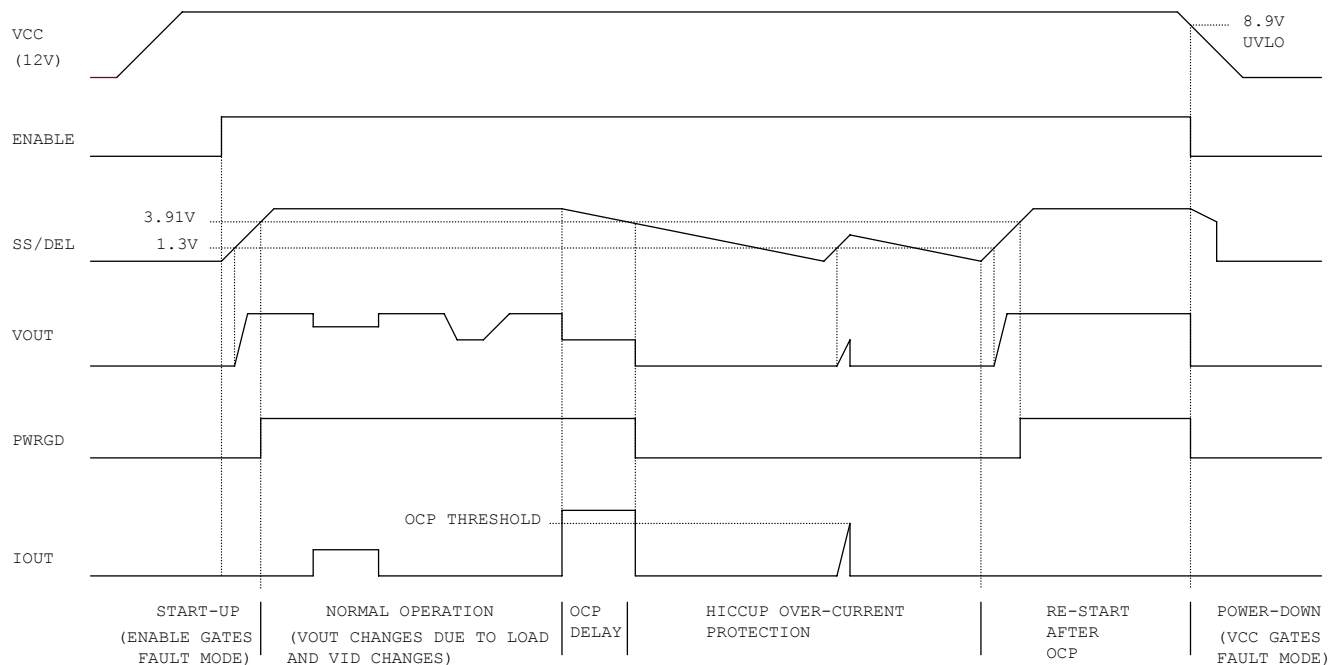

Figure 10. Operating Waveforms
Figure 10 depicts the various operating modes as controlled by the SS/DEL function. If there is no fault, the SS/DEL pin will begin to be charged. The error amplifier output is clamped low until SS/DEL reaches 1.3V. The error amplifier will then regulate the converter's output voltage to match the SS/DEL voltage less the 1.3V offset until it reaches the level determined by the VID inputs. The SS/DEL voltage continues to increase until it rises above 3.91V and allows the PWRGD signal to be asserted. SS/DEL finally settles at 4V, indicating the end of the soft start.
The SS/DEL pin voltage controls the slew rate of the converter output voltage, as shown in Figure 10. After the ENABLE pin voltage rises above 0.6V, there is a soft-start delay time  $t_{SSDEL}$ , after which the error amplifier output is released to allow the soft start. The soft start time  $t_{ss}$  represents the time during which converter voltage rises from zero to  $V_O$ .  $t_{ss}$  can be programmed by an external capacitor, which is determined by Equation (1).